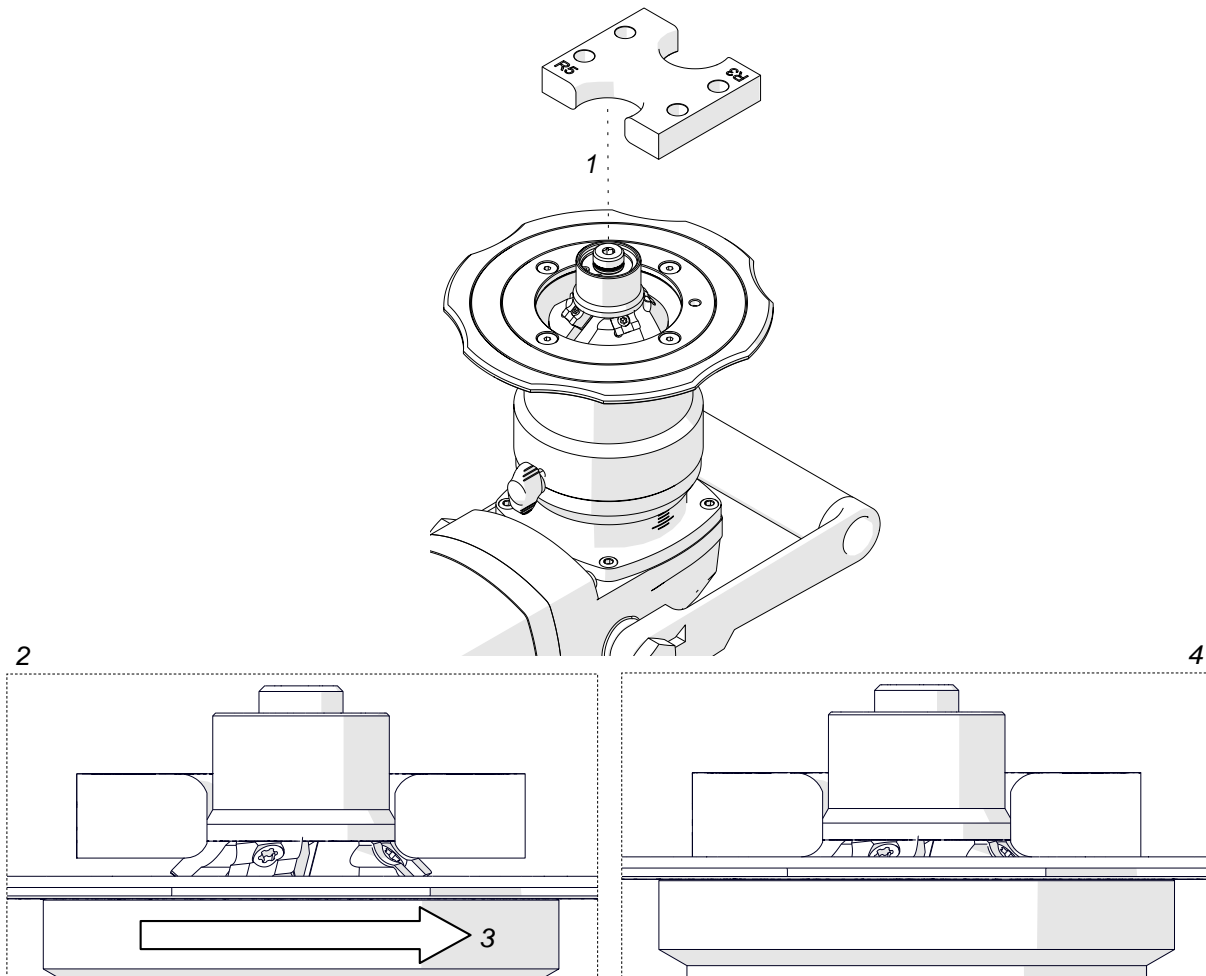

Fig. 15. Adjusting the guide for bevelling with radius
Unplug the machine from the power source, place the machine upside down, and then lower the sleeve to access the cutting inserts. Next, place the positioner from the top (1, Fig. 15) so that the edge marked with a given radius is aligned with the edges of three cutting inserts with the same radius (2). Finally, rotate the sleeve (3) so that the guide makes contact with the positioner (4).